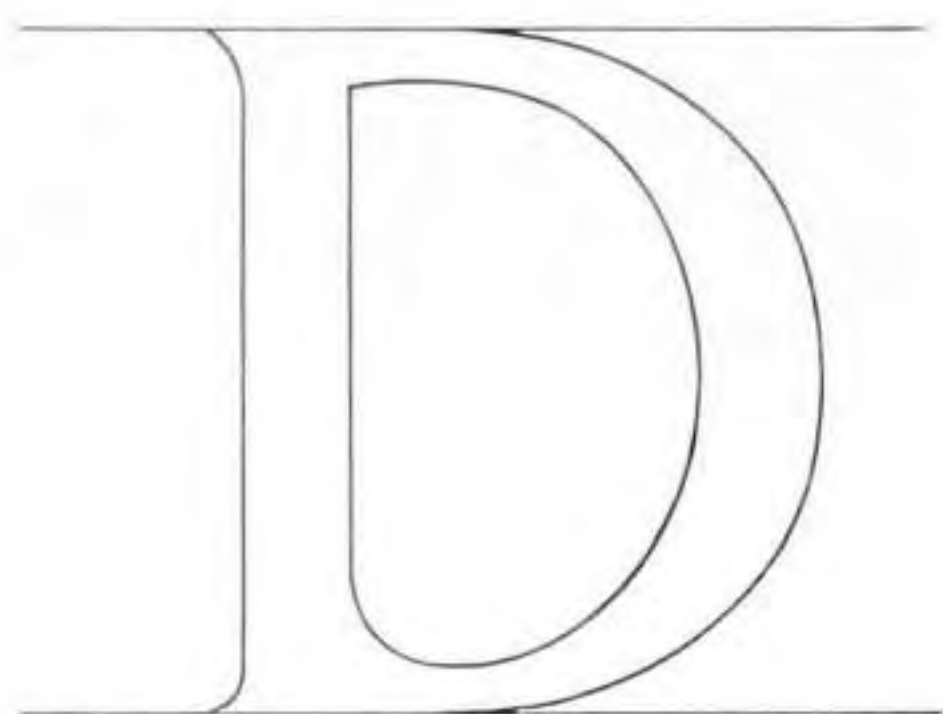

Fig 8.63 Layout for D. Letter height for exercise : 50mm.
- 1 Draw out the cap and base lines and the letter (see Fig 8.63).